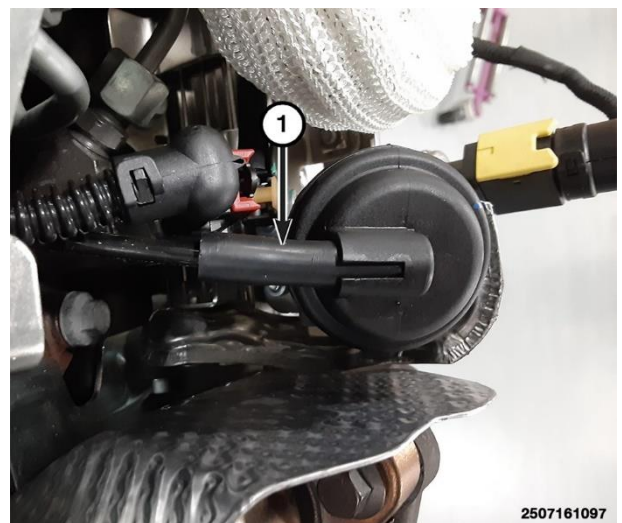

Figure 135 – EGR Cooler Vacuum Bypass Hose
74. Disconnect the EGR cooler vacuum bypass hose (1) (Figure 135).
99. Install the EGR cooler vacuum bypass hose (1) (Figure 135).